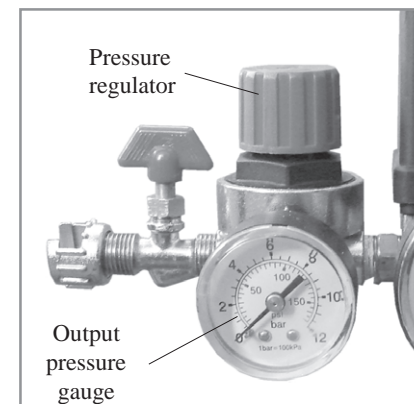

Figure 7
3. Select the pressure you need using the pressure regulator. See figure 7.